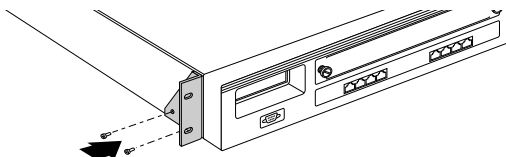

Figure 4: Attaching the Mounting Brackets
2. Attach the mounting brackets to the side of the switch using the M4 x 8 mm screws provided (Figure 4).